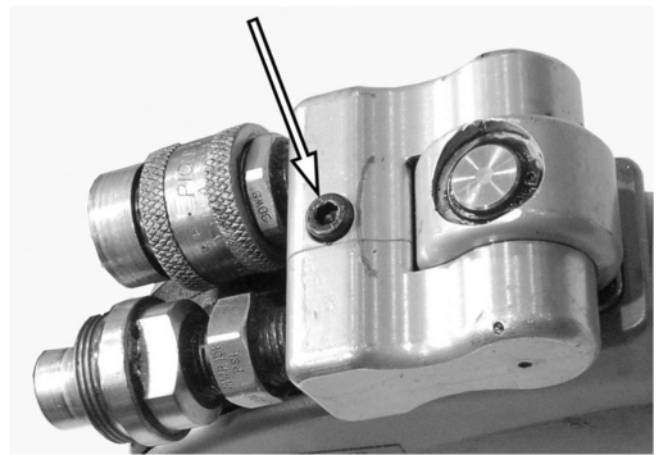

Figure 12. Swivel Yoke Screw Removal
3. See Figure 12. Remove the multiswivel yoke screw.